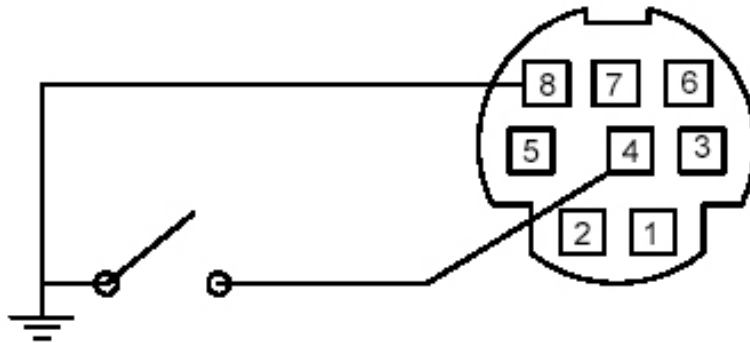

Figure 8. Proper Set Up for Remote Tare on Meters (Momentarily ground Pin 4 to Tare)
**Note:** A remote tare can be achieved by momentarily grounding pin 4 to tare as shown in Figure 8 on page 14.